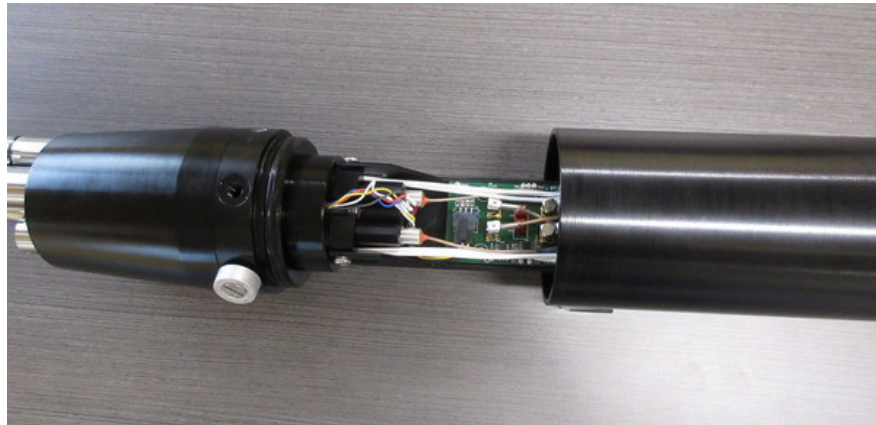

Figure 20: Sliding electronics out of pressure tube
2. Slowly slide the pressure tube past the internal frame (Figure 20), exposing the internal electronics. This step is best completed with two people to prevent damaging the electronics when removing the tube from the front bulkhead.